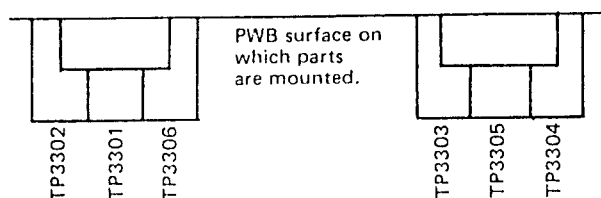

Figure 43.
- 1) Set deck-(1) to the record mode and the record system switch to PAL or AUTO.
- 3) Connect the probe of the oscilloscope between TP3302 and TP3301 (ground). The test points are arranged as shown in figure 43.